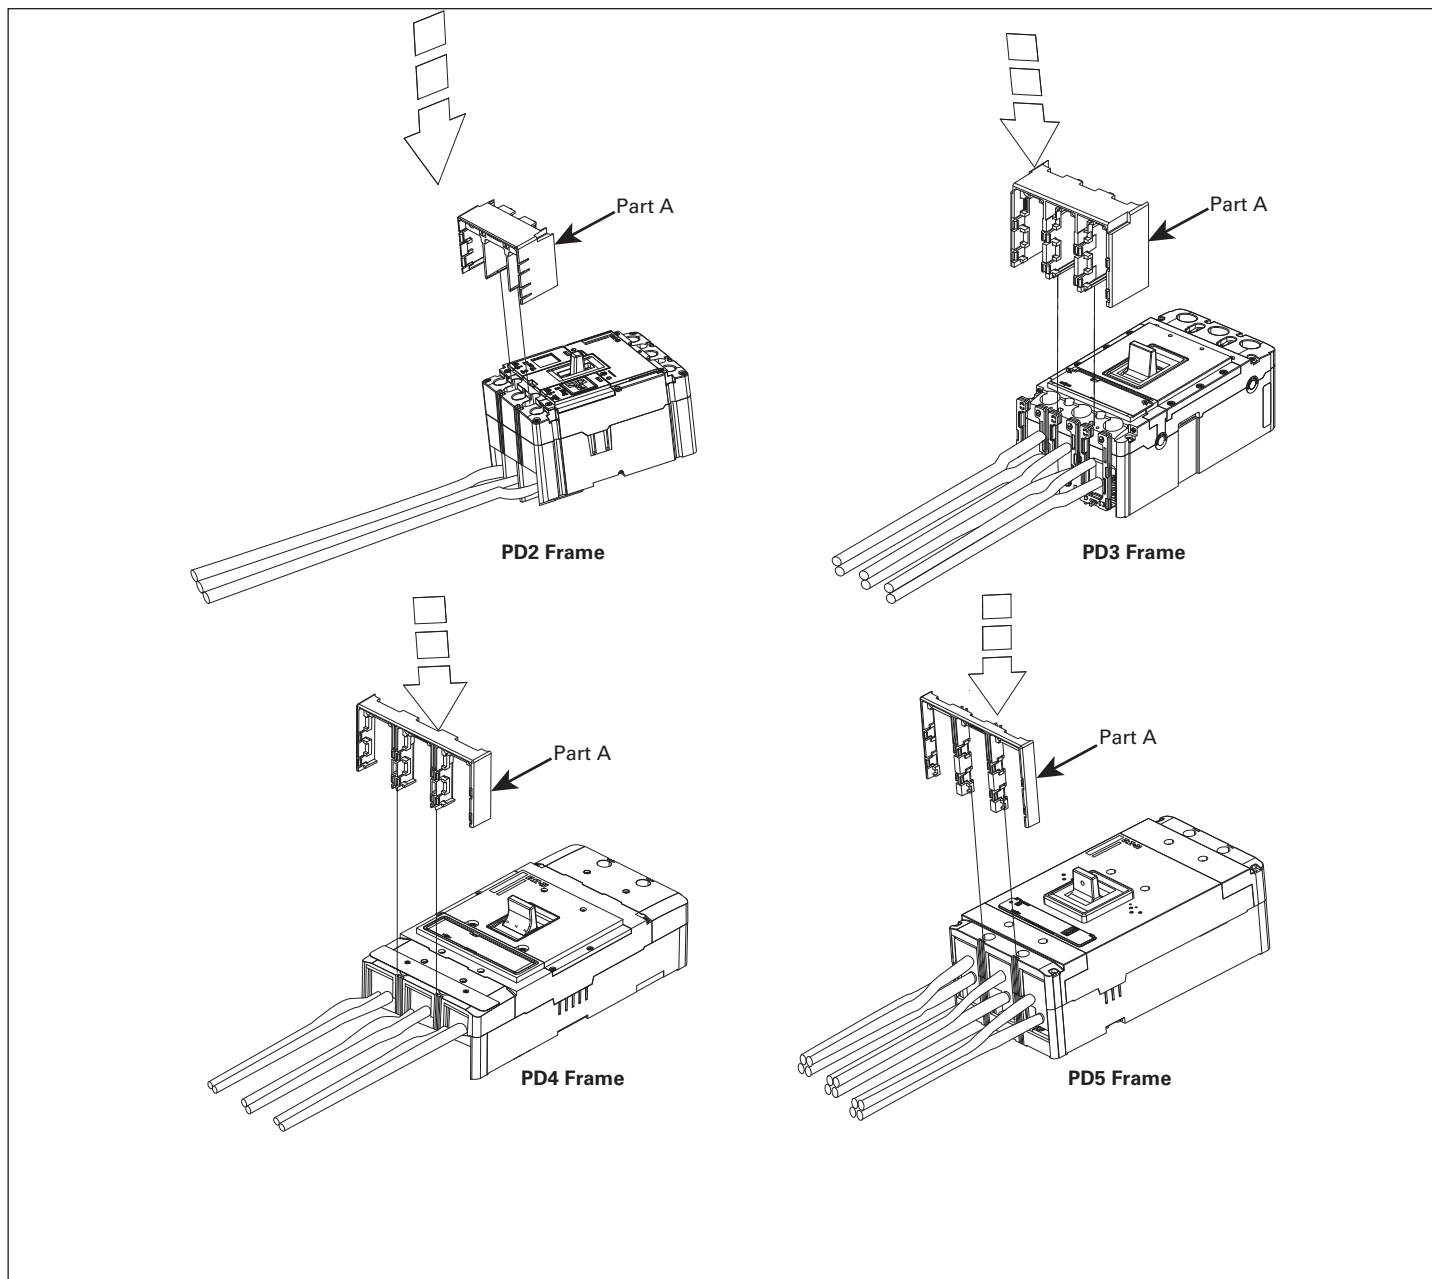

Figure 1. Installation of the PD2, PD3, PD4 & PD5 barrier housings.
A. Align then slide the barrier housing from the front of the breaker until the rear surfaces of the breaker and housing are even (see Figure 1).